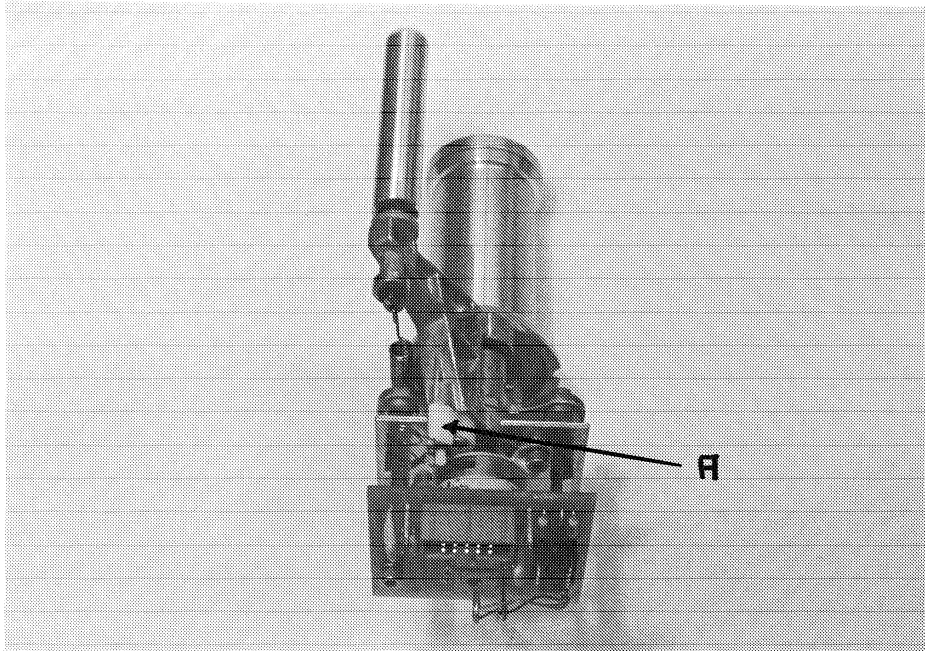

Fig. 5
- Loosen screws (G) and reposition the mechanics.
- If the desired voltage is not adjustable by repositioning the end stop, then the white plastic driver piece (A) needs to be adjusted Fig. 5.